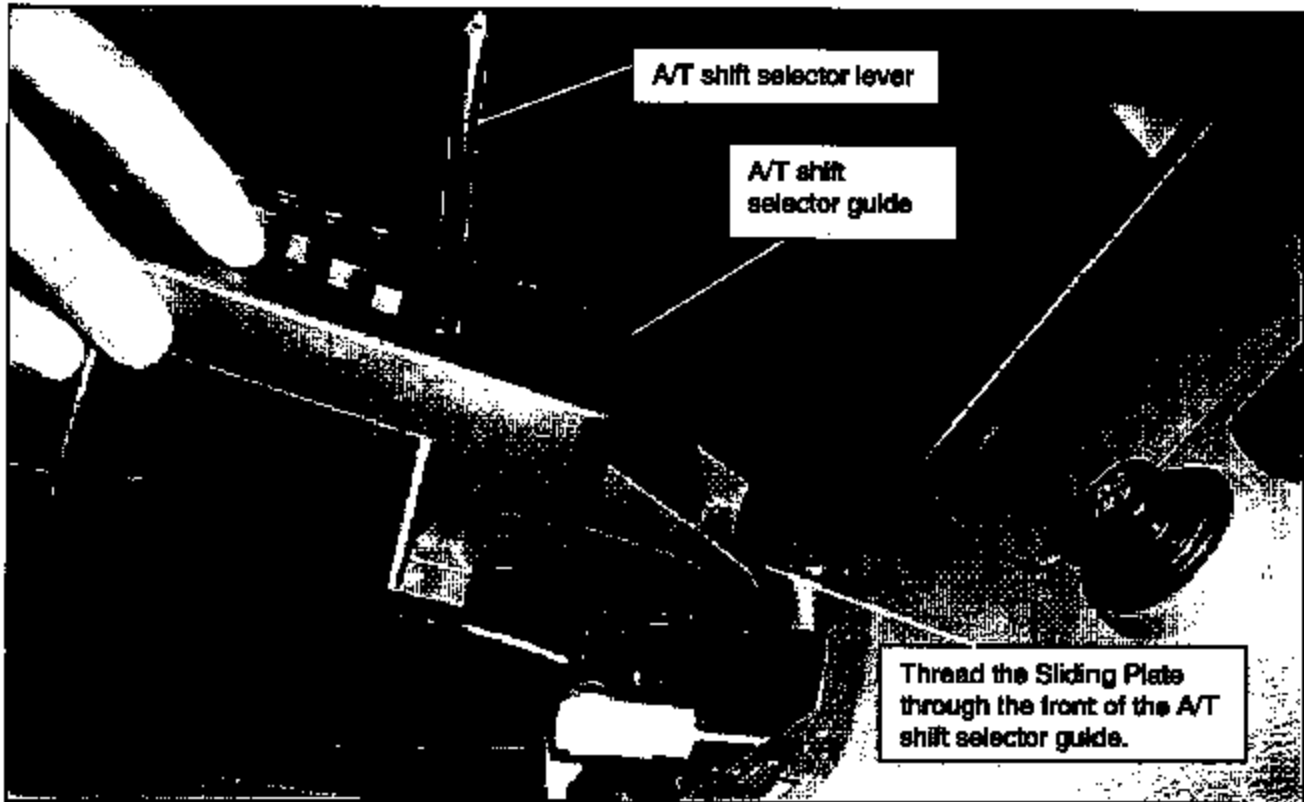

Figure 6
- c. Thread the Sliding Plate through the sliding guide opening on the front of the A/T selector guide (see Figure 6).